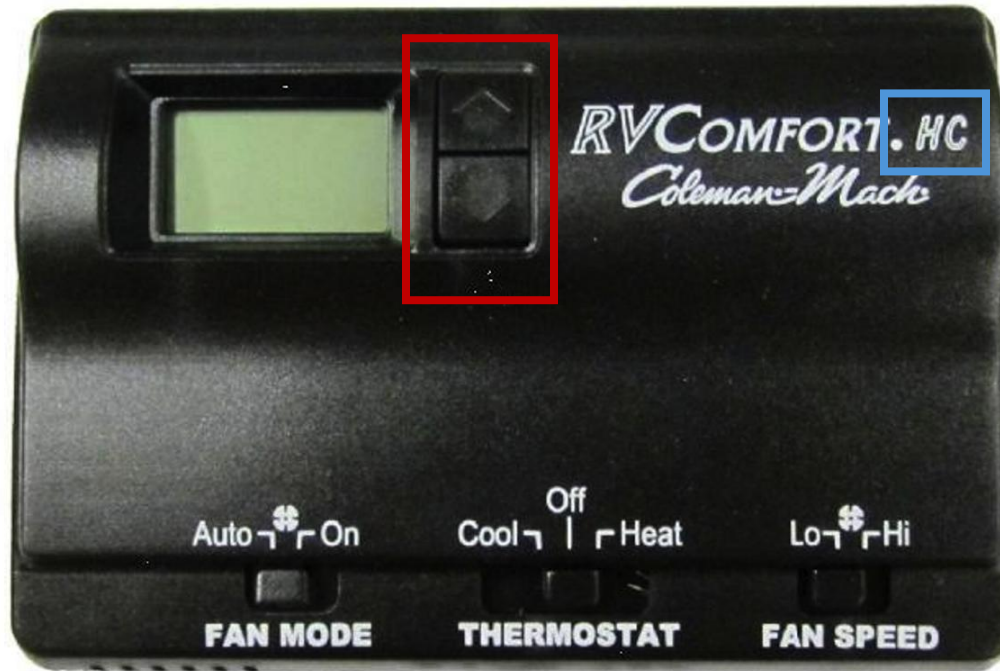

Figure 2 - Coleman Mach™ RVComfort 2-Button
*Figure 2* shows an example of an OEM 2-button display. EasyTouch RV model 352 is compatible with **most** displays of this plastic form. What is important is the overall rectangular shape, small LCD display, and **only** two push buttons (up and down arrows) next to the LCD. The buttons are shown in *Figure 2* by the red box. The plastic color and any slide switches along the bottom are irrelevant for compatibility.
Once you determine *Figure 2* is a match, you must inspect the silkscreen of the front to know what model it is. Displays often are called RVComfort.XXX, where XXX are a set of letters. *Figure 2* shows an example of these letters by the blue box. *Table 2* relates these letters to EasyTouch RV model compatibility. Note this manual is for EasyTouch RV model 352 and some listed may be compatible with other EasyTouch RV models.